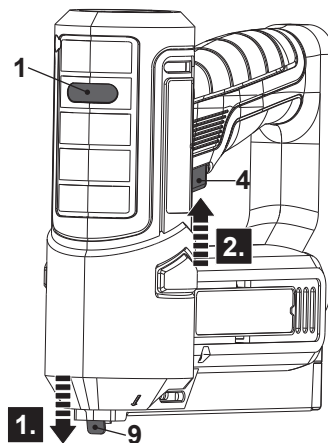

Fig. 8
1. Switch the product on and the power indicator (1) will turn green.
2. Press the safety yoke (9) onto the material/workpiece that you want to staple (Fig. 8, step 1).
3. Press the main trigger (4) (Fig. 8, step 2).